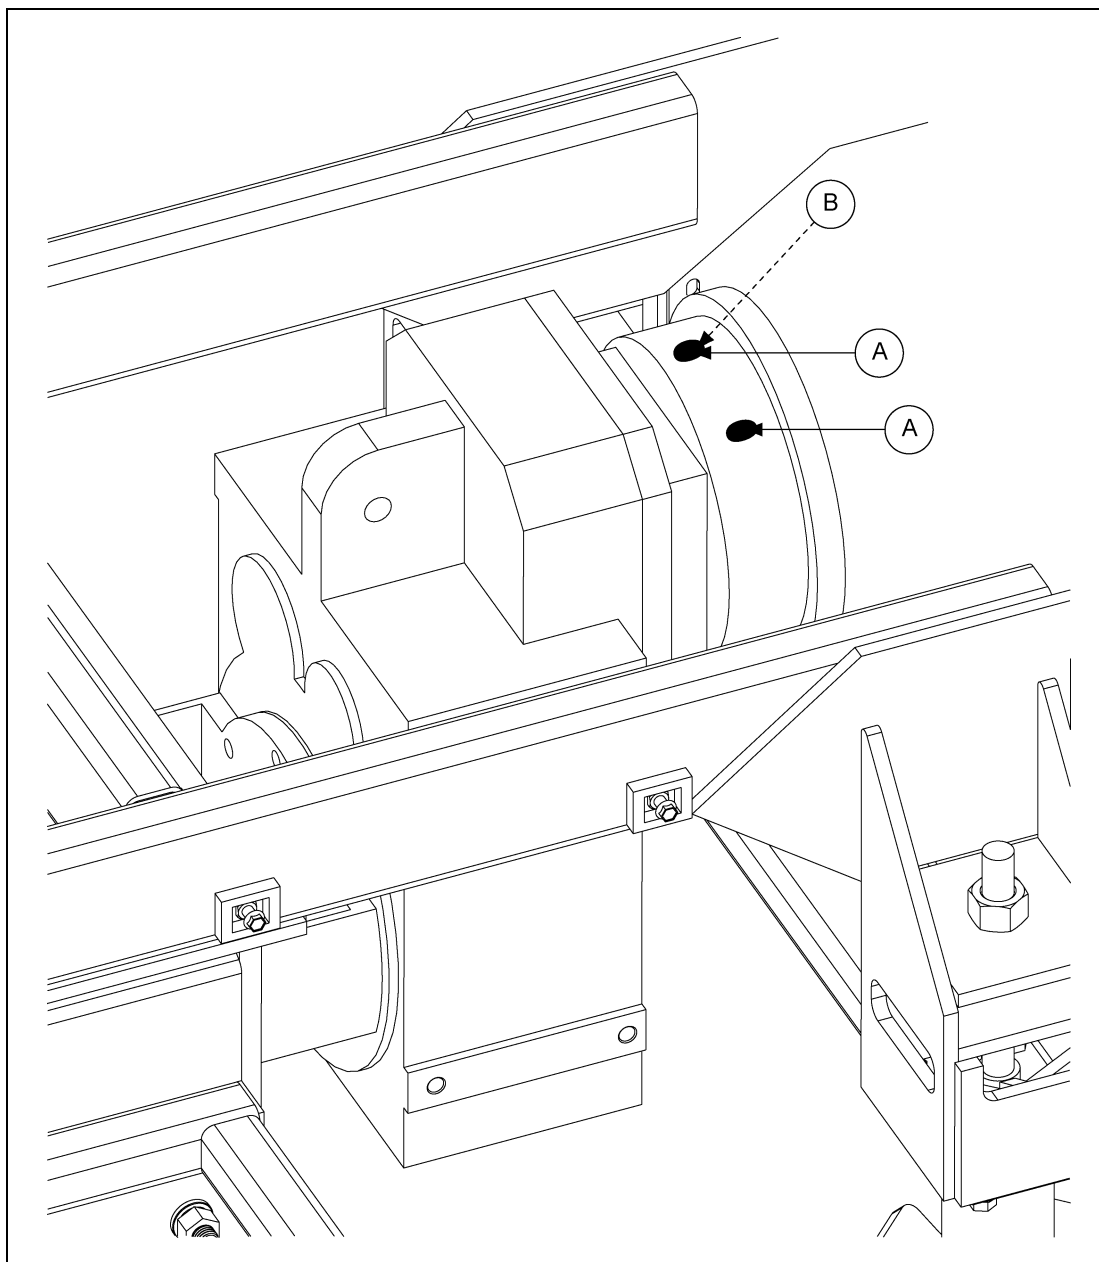

Figure 7Z
1. Remove set screw plugs (A) from gearbox, allowing access to set screws (B). (See Figure 7Z.)